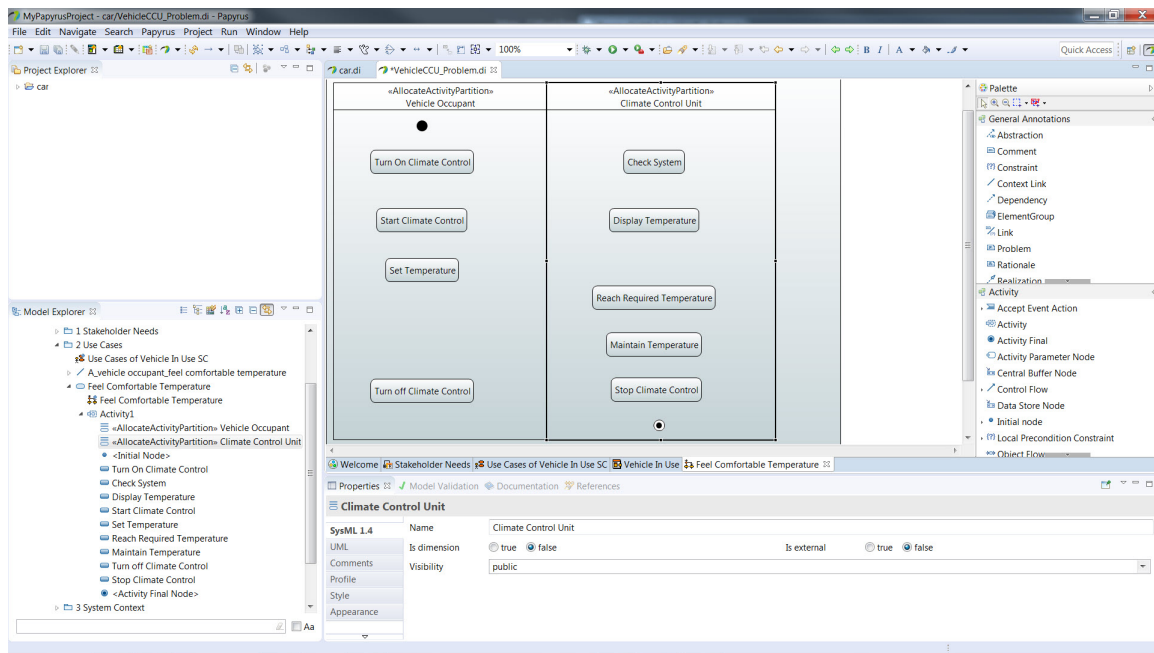

Figure 49: *Feel Comfortable Temperature* Activity Diagram
18. Repeat the procedure to create the other actions listed in step 14 and place them in the activity partitions (swimlanes). Use the activity tool palette on the right and place an **Activity Final** node underneath the *Stop Climate Control* action. Your diagram should look like (figure 49).